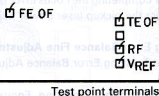

Figure 5
- (2) Make test terminals at the TP pattern position on the Sub-P.C. Board. (Affix lead wires to the TP terminals as the TP terminals are printed on the P.C. Board as a part of the pattern.) (Figure 5)